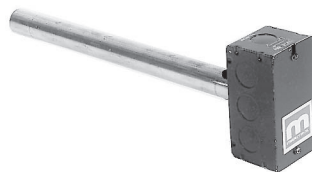

Figure 8. Sensor and Mixing Tube Assembly
- a. For units with sensor and mixing tube assembly (see Figure 8), remove ductwork access panel, slide mixing tube into ductwork, and secure sensor.